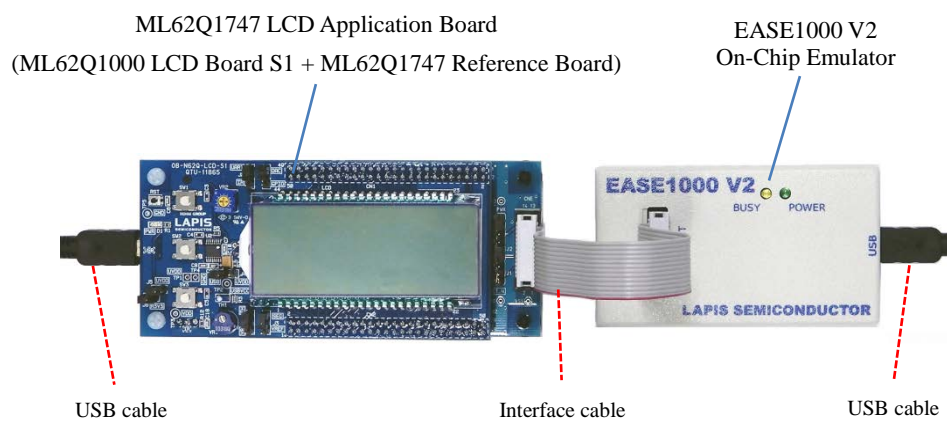
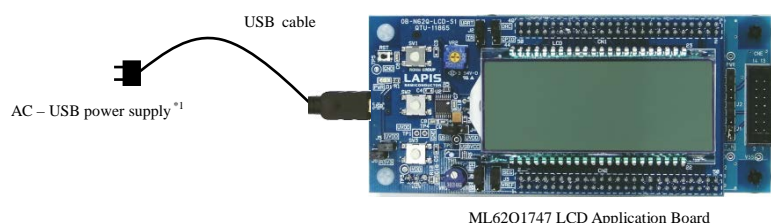
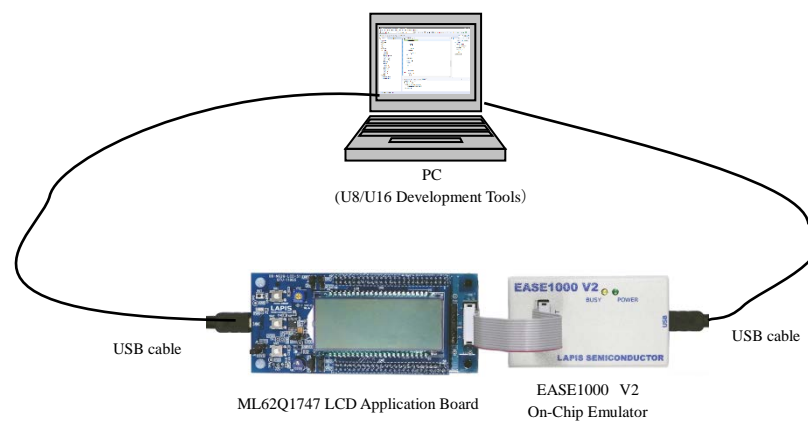

Figure 1 ML62Q1000 LCD Starter Kit hardware configuration
Figure 2 Use in a stand-alone configuration
Figure 5 Use with the U8/U16 Development Tools configuration
- 1-1. As shown in figure 1 and figure 2, connect the USB cable to the ML62Q1747 LCD Application Board.
- 5-1. As shown in figure 1 and figure 5, connect the ML62Q1747 LCD Application Board to the EASE1000 V2 On-Chip Emulator (hereinafter “EASE1000”).